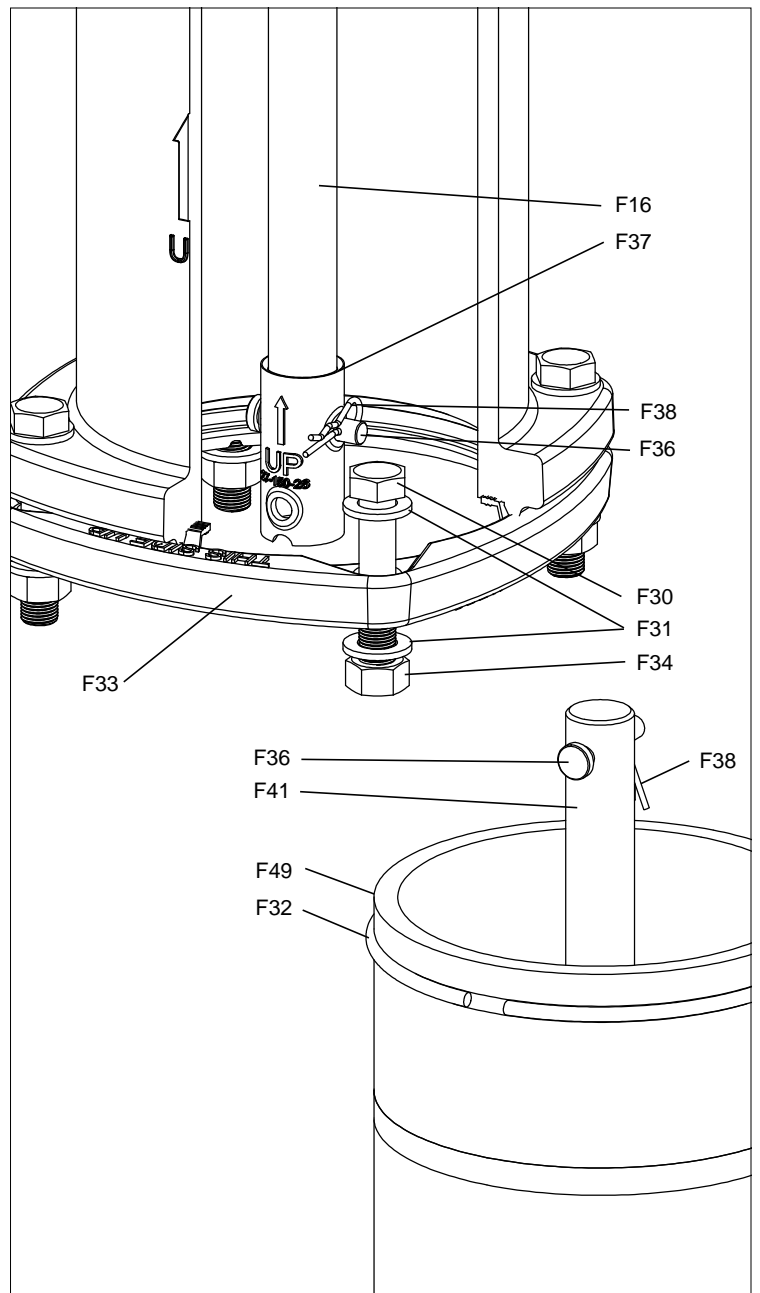

Fig. 8
1. Remove the hardware (F30,31,34) from the Breakable Flange (F33). Slide the Lock Ring (F32) off of the Lower Barrel (F49). (See Fig. 8)
WARNING: Be sure the Breakable Flange (F33) is right side up, indicated with the text "This Side Up", facing towards the nozzle section. (See Fig. 8 & 9). Slide a new Lock Ring (F32) into the groove on the Lower Barrel.